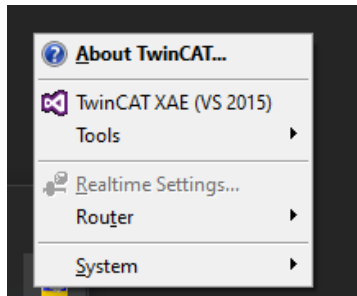

Figure 12: Open TwinCAT
5. Open TwinCAT by clicking on the TwinCAT icon in the lower right corner and selecting “TwinCAT XAE” (see Figure 12).